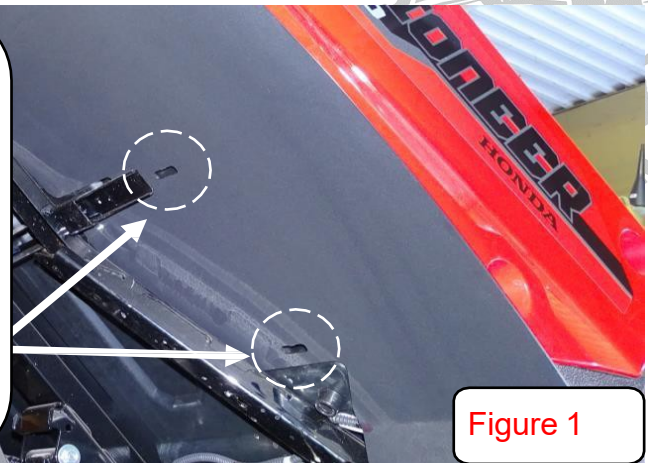

Figure 1
- 2) Place the upper rear fender flare under the dump bed and insert the slotted portion of the inner fender above the sub-frame as shown (**Figure 1**)